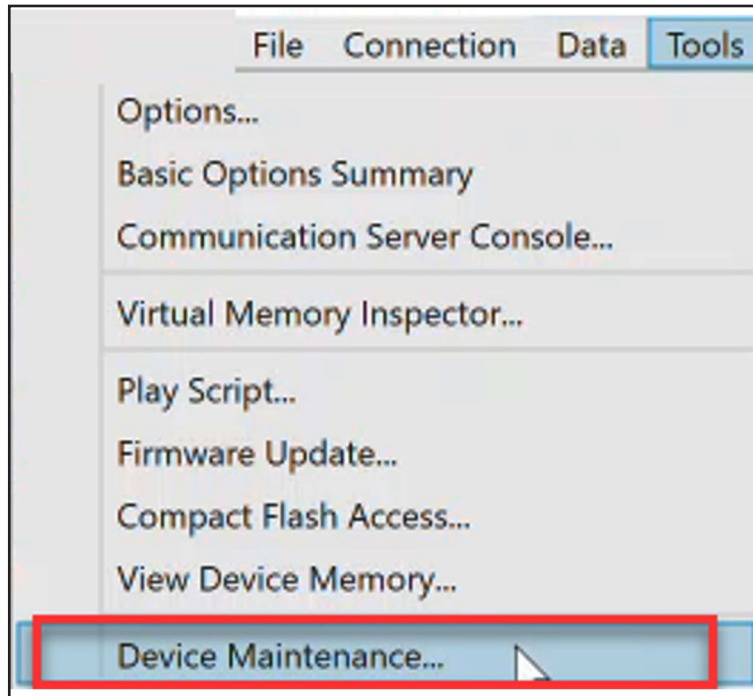

Figure 59. The Tools>Device Maintenance menu.
STEP 2. Click on the **Tools>Device Maintenance** menu item. See Figure 59.